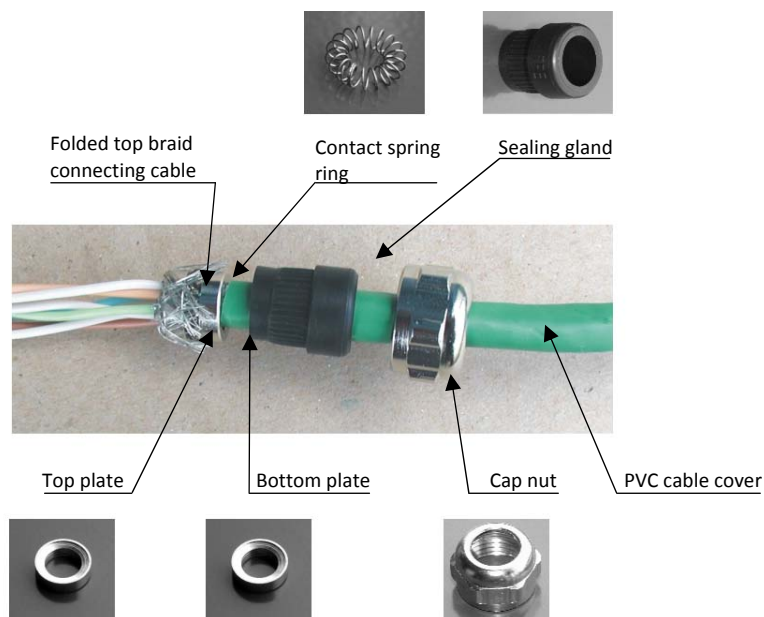

Figure 19 The grommet installation
- The twisted shield will be untwisted and released somewhat. Then it will be pulled over the washers on the cable and shortened at the bottom washer (figure 19). No wire of the shielding must go over the bottom washer, in order to tighten the sealing grommet by the pull-over nut well on the cable, and thus seal the grommet properly.